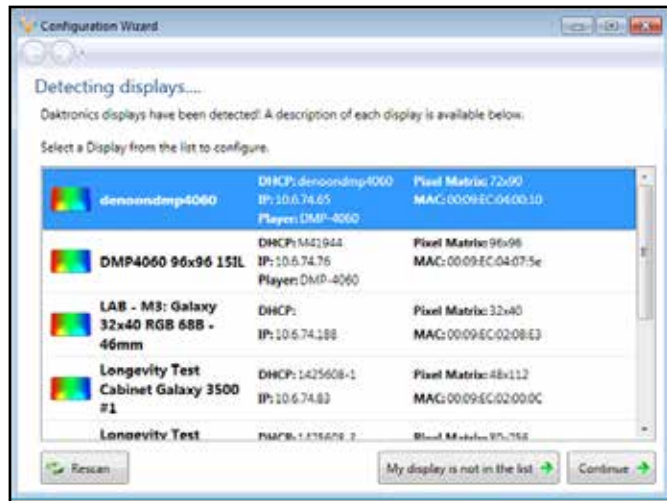

Figure 17: Displays Found List
- Select the display you wish to configure and click **Continue**, as shown in **Figure 17**.